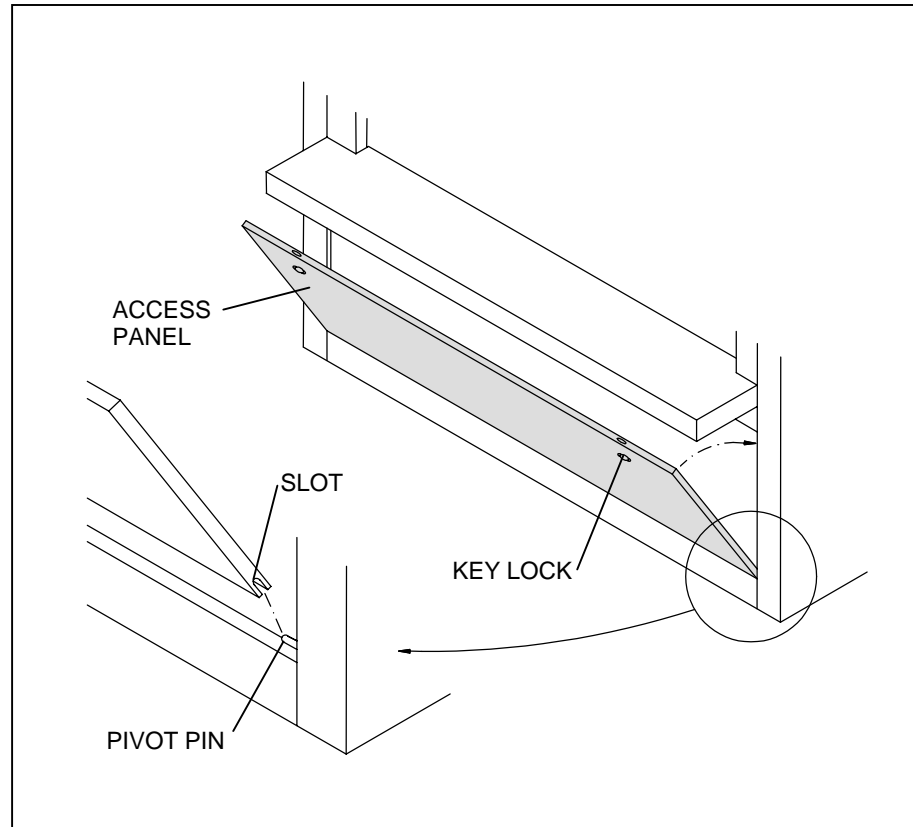

Figure 30. ACCESS PANEL INSTALLATION
1. Orient the panel with the key locks at the top (see Figure 30).